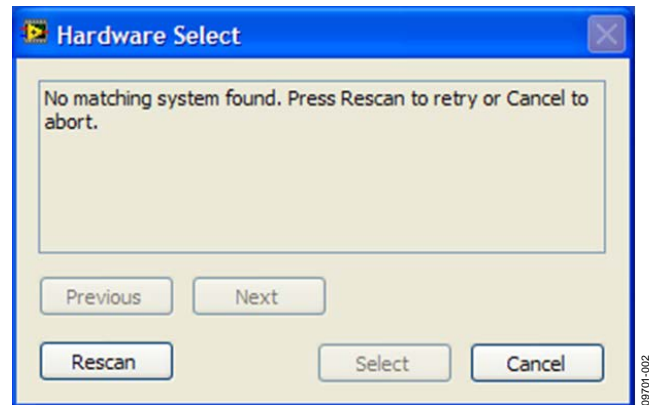

Figure 2. Connectivity Error Alert
2. If the evaluation system is not connected to the USB port when the software is launched, or if the AD5421 board is not connected to the SDP board, a connectivity error displays (see Figure 2). Simply connect the evaluation board to the USB port of the PC, wait a number of seconds, click **Rescan**, and follow the instructions.